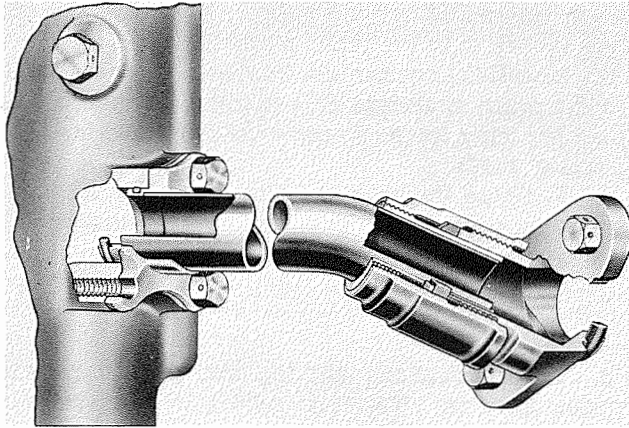

Figure 7-29. External Oil Tube Connection
**7-61. REPLACEMENT.** See figure 7-29.